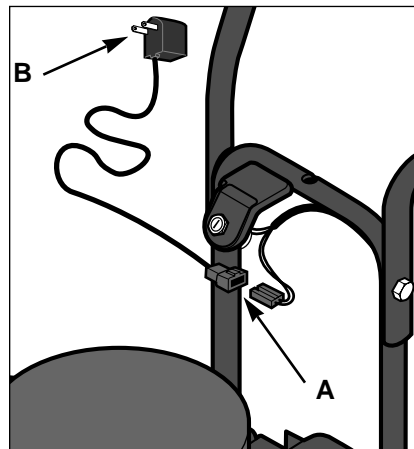

Figure 5-15: Use the recharger shipped to you to charge the battery.
A. Connect the battery charger shipped to you to the trimmer/ mower wire harness (A, Figure 5-15). The terminals should be snugly connected.
B. Plug the recharger (B, Figure 5-15) into a grounded 120-Volt outlet.